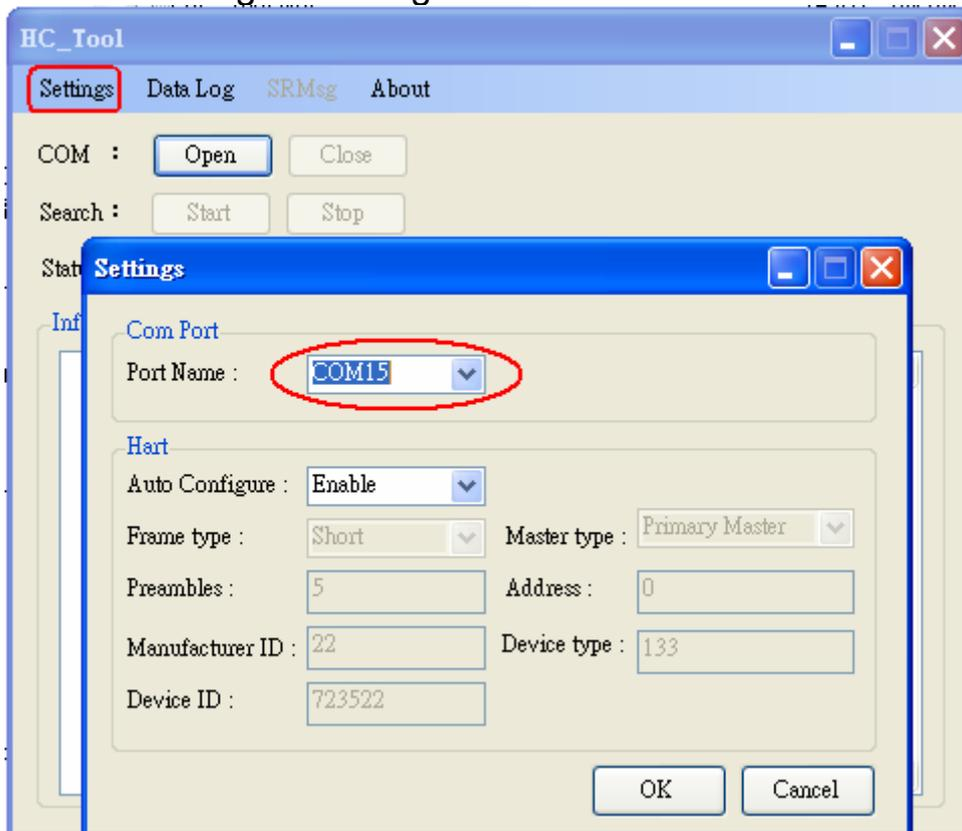
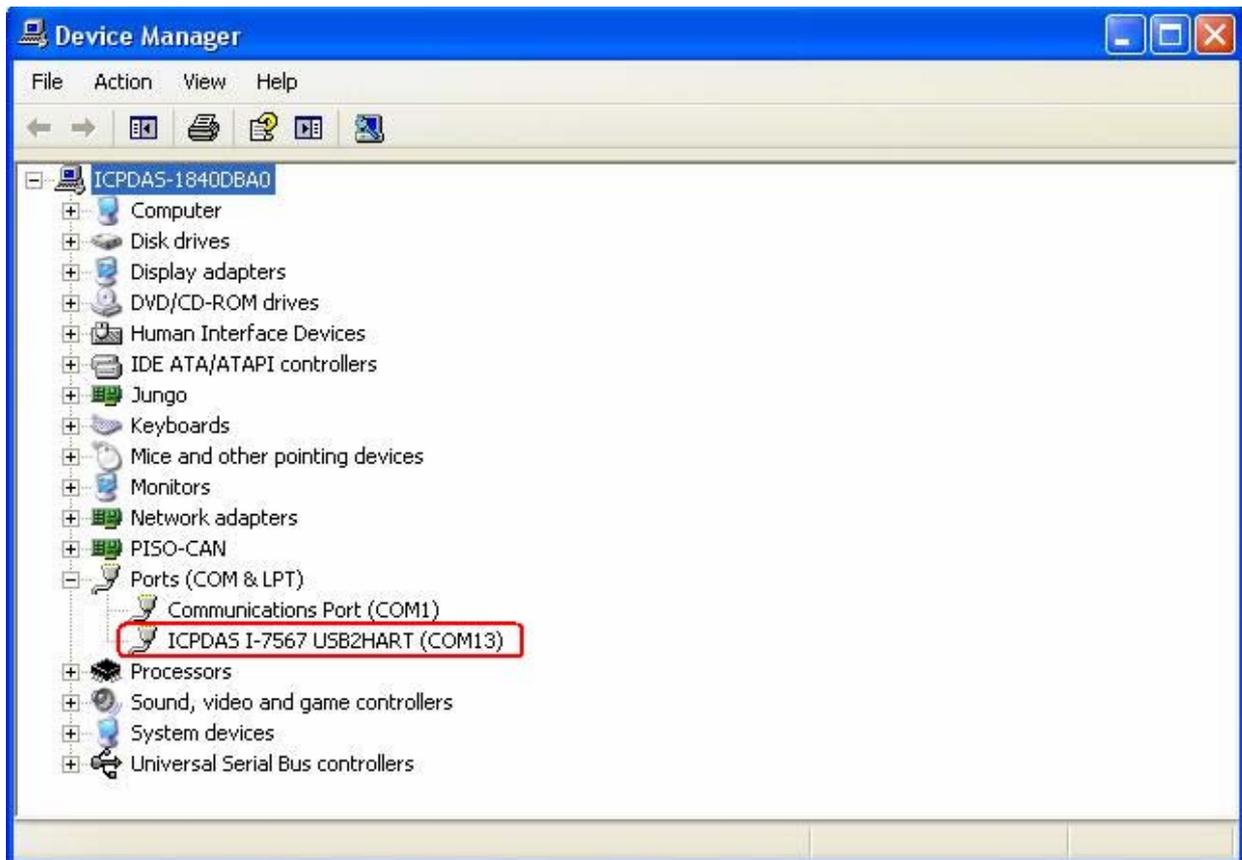

Figure 3-1: “Settings” function of HC_Tool
Figure 3-2: The Virtual COM Port Number
Step2: Run the “I-7567 Utility”, **HC_Tool**, and click the “Settings” item like Figure 3-1 to configure the serial connection and HART command parameters. About the virtual com port number, please refer to the “Device Manager” like Figure 3-2.